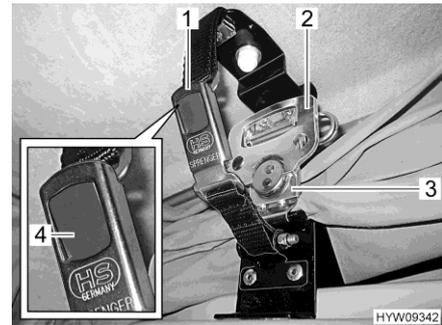

Fig. 56 Lock (elevating roof)
- Open the snap lock (Fig. 56,1) on both sides. In order to do this, press the grey push button (Fig. 56,4).
- On each side, fold out the handle (Fig. 56,2) of the quick-action turnbuckle (Fig. 56,3) and turn half a turn in an anticlockwise direction. Thus, the lock is released.